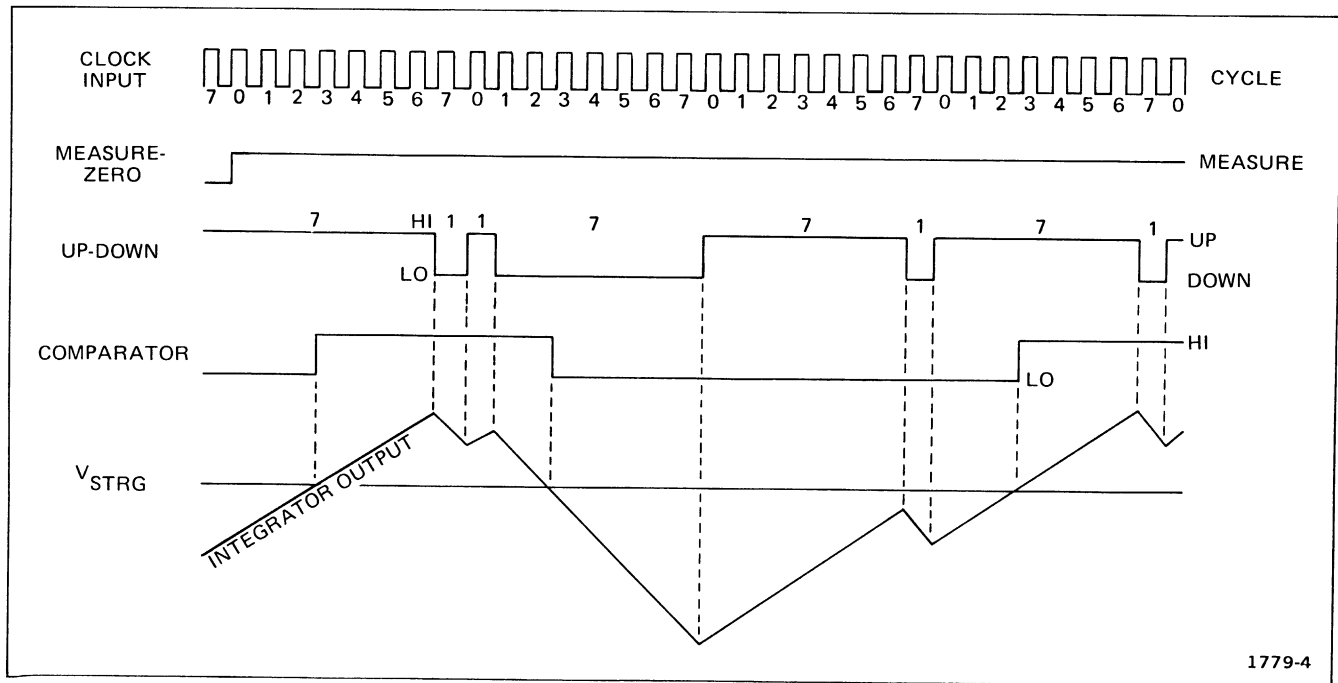

Fig. 3-3. Measure Interval timing.
Measure Interval (see Fig. 3-3)
The Up-Down logic is "up" (HI) 1 clock cycle and "down" (LO) 7 cycles for a high comparator output, and "down" (LO) 1 clock cycle and "up" (HI) 7 cycles for a low comparator output. See Fig. 3-3 for Measure Interval Timing diagram.